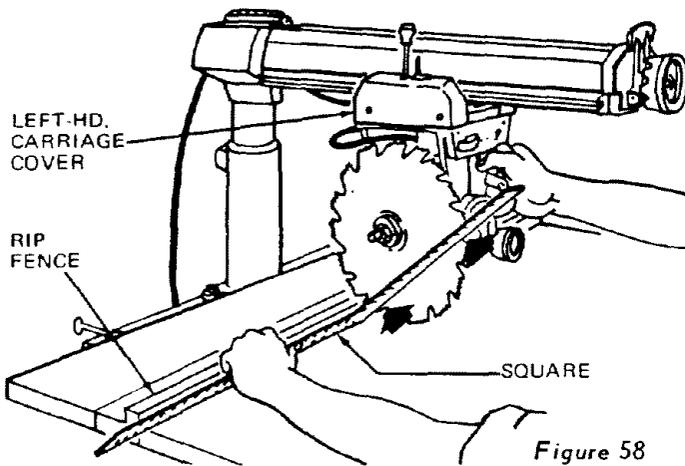

Figure 58
- (1) Loosen the guard clamp screw and remove the guard.
- (2) Place a square against the rip fence and the saw blade, as shown in figure 58. The long leg of the square must be held firmly against both the rip fence and the table top, and the short leg must not touch any of the teeth on the saw blade.
- (3) If the square does not touch the blade at *both* of the two points shown in figure 58, a heel condition exists (either to the left or right).
- (1) Remove the left-hand carriage cover (figure 58).